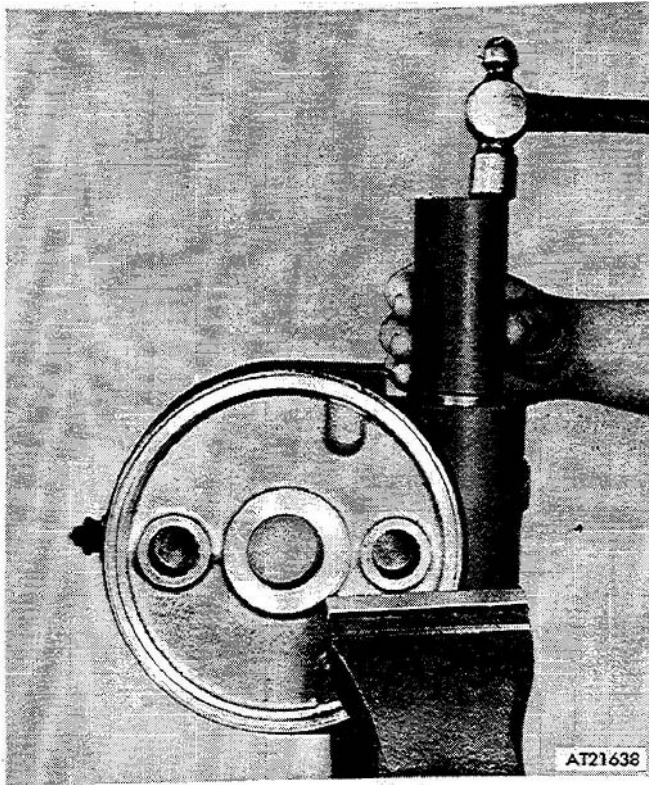

Figure 4-14. *Installing bearing race.*
(1) Install bearing race of input shaft bearing (5, fig 4-10) in gear housing (6) as shown in figure 4-14.